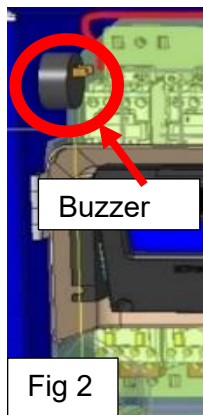
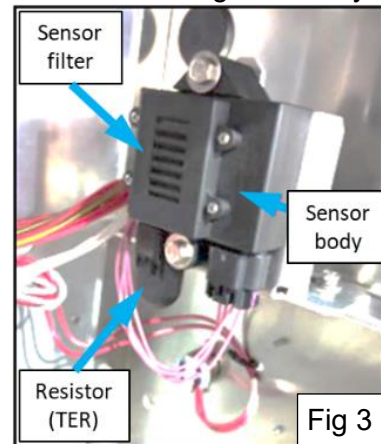

Fig 2
Fig 3
To convert a unit to R-1234yf, a model specific kit must be used. Each kit includes service fittings, filter-dryer, warning buzzer, labels and an R-1234yf sensor. The buzzer is located inside the control box and will sound off during Pretrip and when R-1234yf levels are above 20% of its lower flammability limit (LFL). (Figure 2) The R-1234yf sensor is installed on the center tube sheet extension above the coil accessible from the control box side access panel of the unit (Figure 3). It consists of a terminal resistor ("TER" on schematic, PN 22-69299-00), a filter (PN 10-66816-10), and a sensor (PN 10-00555-00). When ordering replacements, the sensor includes a filter.
1. Check for 12 Volts between plug SM, pin 7 and CD plug, pin 4 (figure 3) at the controller. If there is no voltage, change controller.